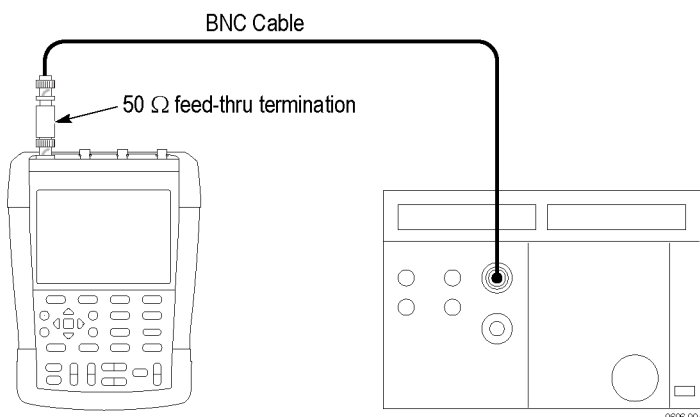

Figure 10: Input LF-HF gain test setup
5. Connect the instrument to the 5500A SCOPE output as shown. (See Figure 10 on page 27.)
1. Connect the instrument to the 5500A as shown. (See Figure 10.)